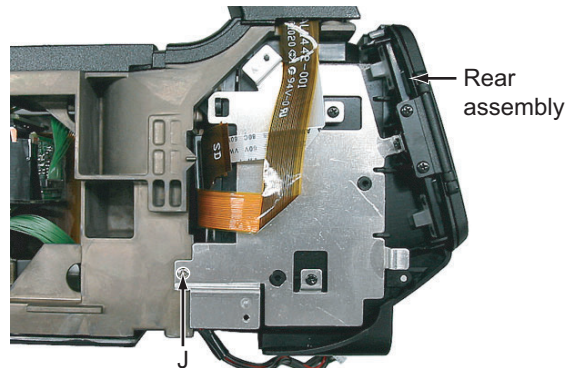

Fig.12
3.1.5 Removing the rear assembly (See Figure 12 and 13)